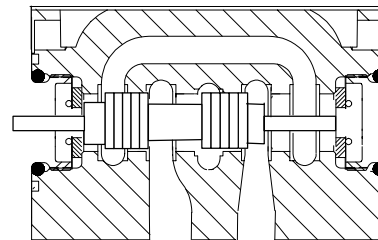
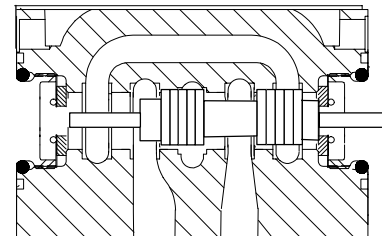
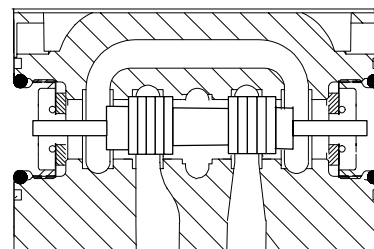

Figure 12a. Flow Conditions Pressure to "B" - "A" to Tank
Figure 12b. Flow Conditions Pressure to "A" - "B" to Tank
Figure 12c. Flow Conditions Flow Blocked (Center Condition #2 Spool)
2. Electrical Solenoid Pilot Operation: Electrical solenoids are attached to the pilot valve body. Internal push pins connect the solenoid to the pilot spool. When the magnetic field of solenoid "B" is energized, the solenoid armature moves the push pin and shifts the pilot spool towards solenoid "A" (see Figure 12a). When solenoid "A" is energized, the pilot spool shifts toward solenoid "B" (see Figure 12b). When both solenoids are de-energized, the pilot spool shifts to center position (see Figure 12c).